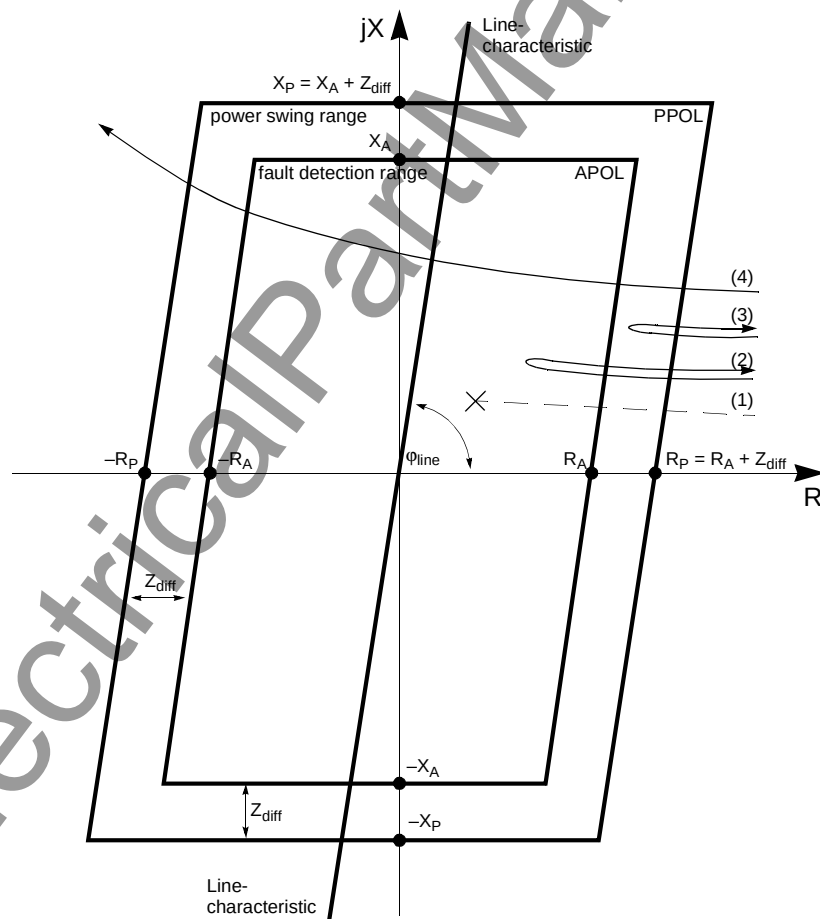

Figure 6-40 Pick up characteristic of the power swing detection for a polygon.
To detect a power swing, the rate of change of the impedance vector is measured. The measurement is started when the impedance vector enters the power swing measuring range PPOL (refer to Figure 6-40). The fault detection range APOL is made up of the largest set values for R and X of all the activated zones. The power swing range has a minimum distance Z_{diff} of 5 Ω (at $I_N = 1$ A) or 1 Ω (at $I_N = 5$ A) in all directions from the fault detection range. In the event of a short-circuit (1), the impedance vector abruptly changes from the load condition into this fault detection range. However, in the event of a power swing, the apparent impedance vector initially enters the power swing range PPOL and only later enters the fault detection range APOL (2). It is also possible that a power swing vector will enter the area of the power swing range and leave it again without coming into contact with the fault detection range (3). If the vector enters the power swing polygon and passes through it leaving on the opposite side, then the sections of the network seen from the relay location have lost synchronism (4): The power transfer is unstable.
When the impedance vectors identified by the power swing detection exit the power swing characteristic PPOL, the R components are used to check if the vectors have the same sign as was the case when they entered the power swing characteristic. If this is the case, the power swing process is inclined to stabilize. Otherwise, the vector passed through the power swing characteristic (loss of synchronism, case (4) in Figure 6-40). The device issues a three-pole trip command, thereby isolating the two system segments from each other. Power swing tripping is alarmed.